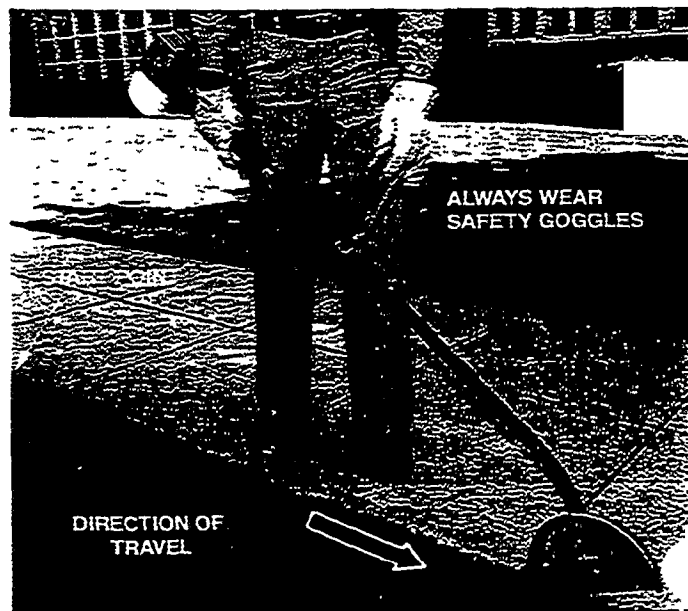

Figure 35
- Start the engine and run at half throttle before putting blade into the ground. Gently lower the blade into the ground at the point you wish to start edging. Be careful not to nit the concrete (Figure 35).
- The correct handling of your edger is shown in (Figure 35)